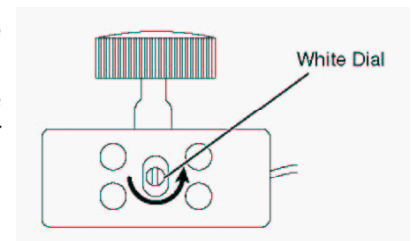

**Figure 33 -
3. The junction box cover has a factory installed “romex” style strain relief connector. After connecting the wires, route the wire leads through this connector. Refer to the wiring diagram in *Figure 33*.